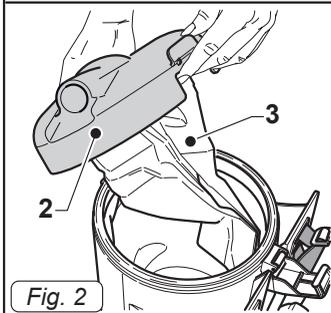

Fig. 2
- Release the lever (1a/1 Fig.1) and remove the cover (2 Fig.2) together with the paper bag (3 Fig.2).